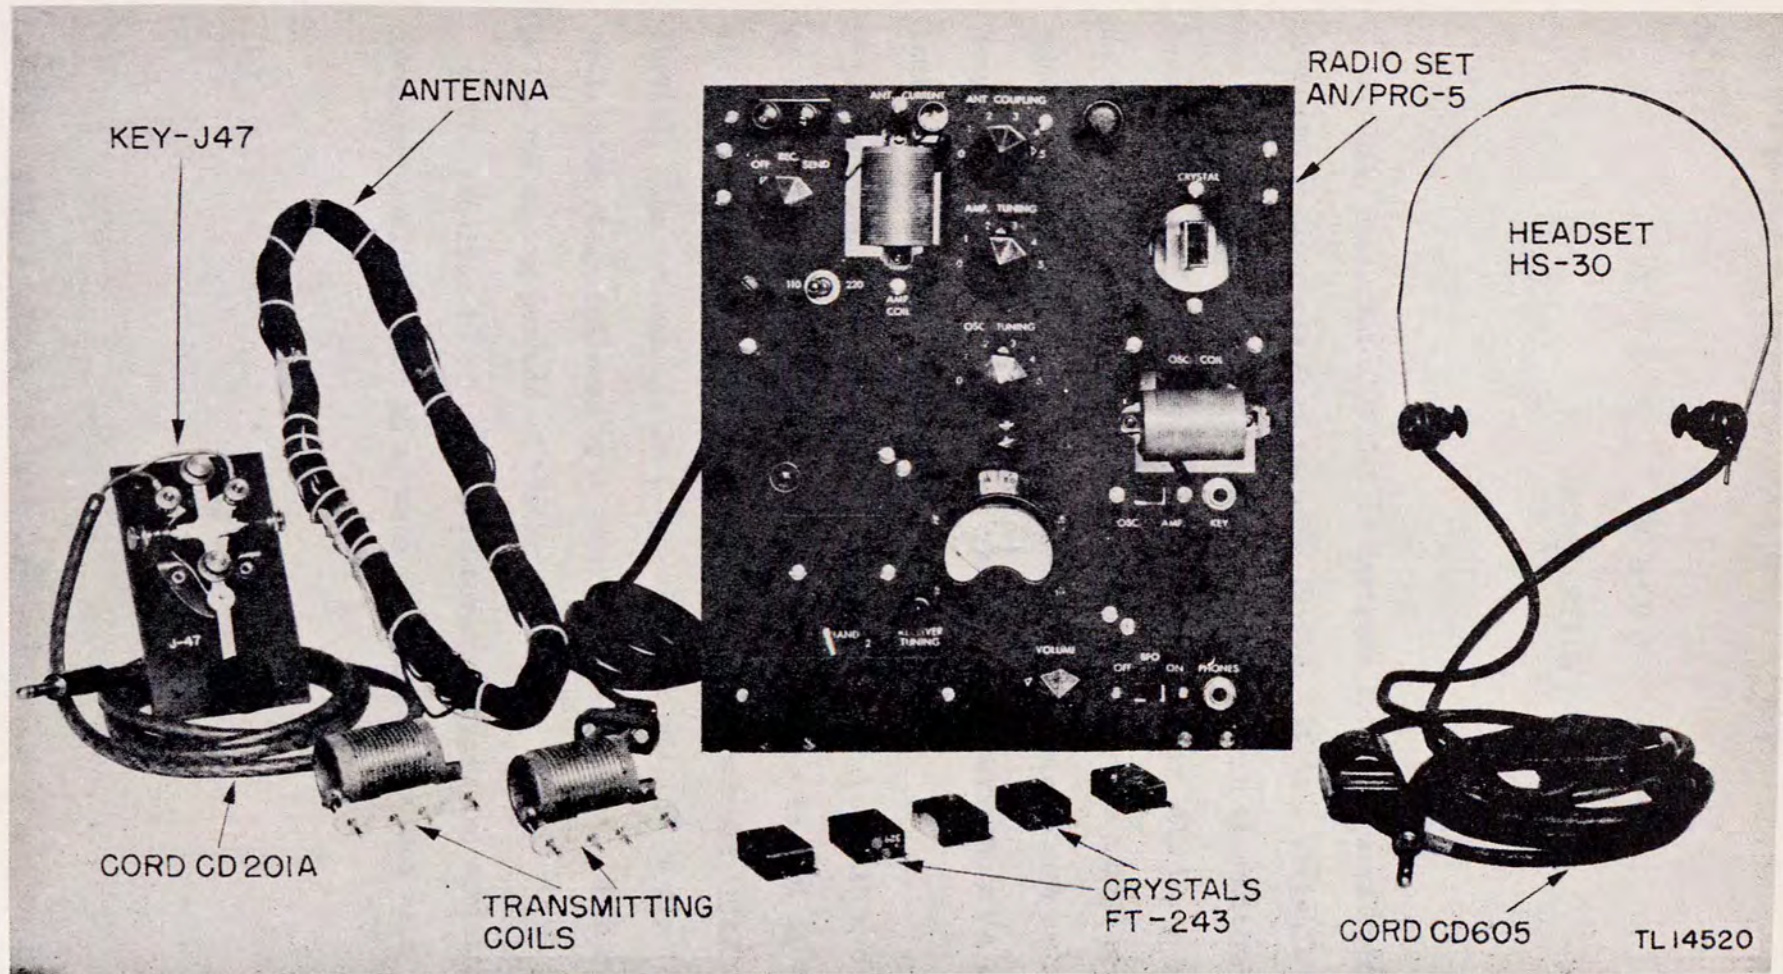

Figure 1. Radio Set AN/PRC-5, front panel and operating components.
- (1) 4,500 to 8,000 kilocycles.
- (2) 8,000 to 16,000 kilocycles.
5. SOURCE OF POWER (fig. 1). The equipment is designed for operation from a 110- or 220-volt, 50- to 60-cycle, single-phase source. The equipment is set for operation from a source of either voltage by manipulation of the switch marked 110-220, located near the FUSE receptacle in the upper left-hand corner of the transceiver unit.
7. TRANSCEIVER (fig. 1). The transmitter and the power supply form the upper half of the transceiver unit, and the receiver forms the lower half. All of the controls for the transceiver unit are mounted on a single panel covering the face of the unit (fig. 1).
9. HEADSET (fig. 1). Headset HS-30, furnished with the equipment, plugs into the PHONES jack on the transceiver unit by means of Plug PL-55 attached to the end of headset Cord CD-605. The 256-ohm primary winding of Transformer C-410 is connected to the headset, and the 8,000-ohm secondary winding is connected to the receiver output by means of the complete headset and cord assembly.
10. KEY (fig. 1). Key J-47, furnished with the equipment, plugs into the KEY jack on the transceiver unit by means of Plug PL-55 attached to the end of Cord CD-201-A.